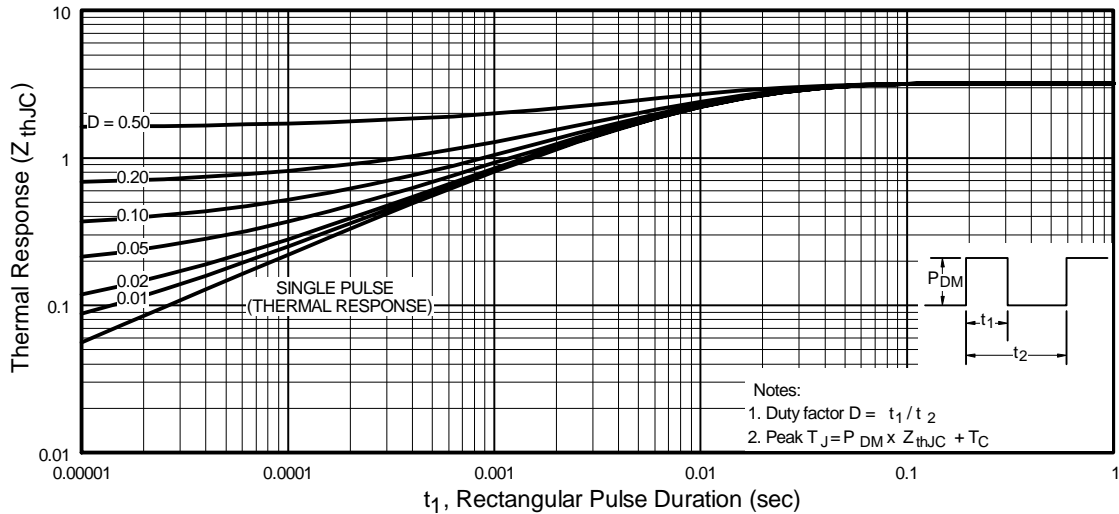

Fig 11. Maximum Effective Transient Thermal Impedance, Junction-to-Case
- ① Repetitive rating; pulse width limited by max. junction temperature. (See fig. 11)
- ② Starting $T_J = 25^\circ\text{C}$, $L = 18\text{ mH}$